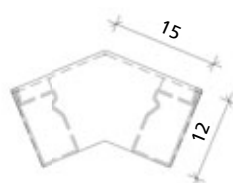

Fig. 19.2 Inside corner 135°
■ Inside corner 15 cm (Fig. 19.2).